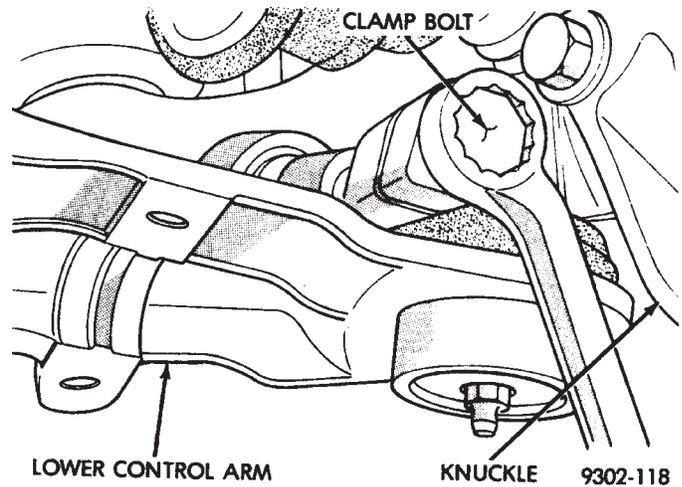

Fig. 13 Tighten Clamp Bolt
- (4) Install and tighten clamp bolt to 145 N•m (105 ft. lbs.) torque (Fig. 13).